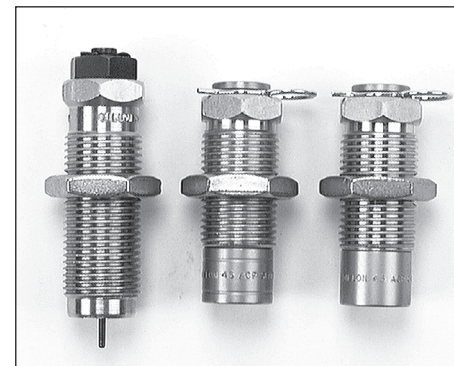

FIG 25
The stations on the toolhead are numbered 1-5. Station 1 is for the sizing/decapping die FIG 25. This die can be easily identified by the decapping pin sticking out the bottom as well as by its label. This die removes or "decaps" the old primer and resizes the case.
Station 4 is for the seating die **FIG 25**. This is where the bullet is pushed into the case.
Station 5 is for the crimp die **FIG 25**. This die not only removes the bell created at Station 2, but rolls the mouth of the case inward to insure proper feeding and to secure the bullet.
A. Station 1 – To install the size/decap die FIG 25: